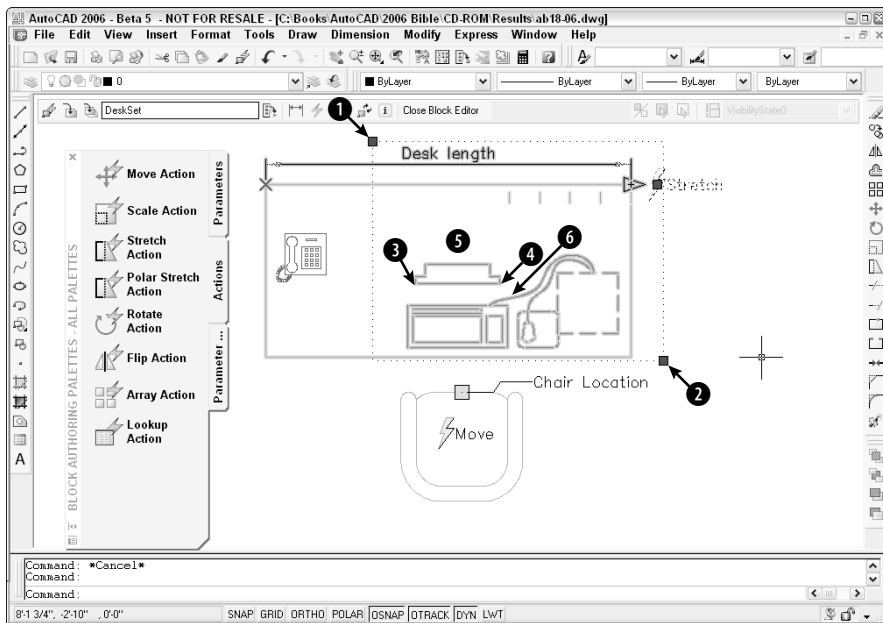

Figure 18-24: The DeskSet block after adding a move action to the armchair and a stretch action to the desk.
Specify first corner of stretch frame or [CPolygon]: *Click at ① in Figure 18-24.*
11. The block should look like Figure 18-24.
13. At the next two prompts, pick points ③ and ④ in Figure 18-24. Then place the parameter label above the monitor.
16. Click the Actions tab on the Block Authoring palette and choose Stretch Action. At the Select parameter: prompt, select the linear parameter that you just created. At the next prompt, click the right parameter point. To specify the stretch frame, pick 5 and then 6 in Figure 18-24. To select objects, pick near 6 and then near 5. Press Enter to end selection. Specify a label location above the monitor.